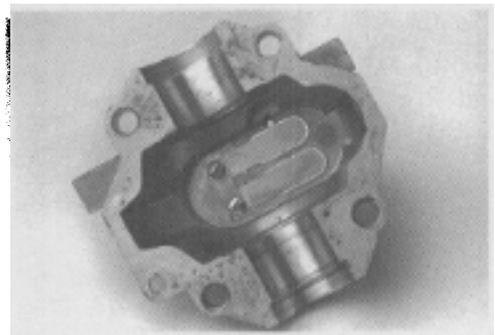

Figure 78
7. Apply Loctite 515 gasket maker very thinly to the crankcase cover sealing surface, being careful not to get sealant on bearings or seals (Figure 78).